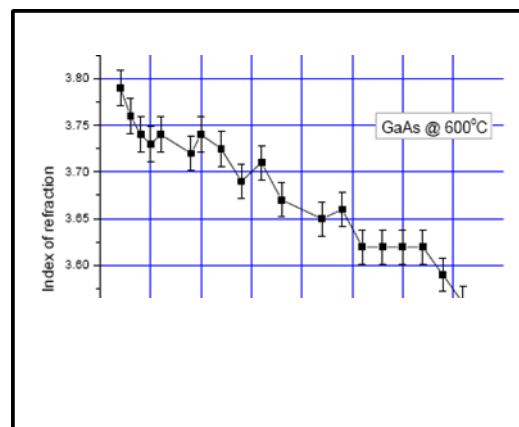

Figure 3: GaAs dispersion curve determined using RHEED oscillation growth rate data and pyrometric interference oscillation data.
In both versions of the equation, the unknown is the index of refraction, η , which depends on wavelength and also changes at the elevated temperatures typical of III-V film deposition. To determine η , one can simultaneously gather pyrometric interference data (T) from kSA BandiT and growth rate data (G) from an independent source, such as RHEED oscillation data. With known T and G, simply solve the above equation for η . Solving for η at every wavelength gives a material-temperature dependent dispersion curve. For example, Figure 3 shows such a dispersion curve for η for GaAs at 600°C in the wavelength range 900-1280nm.